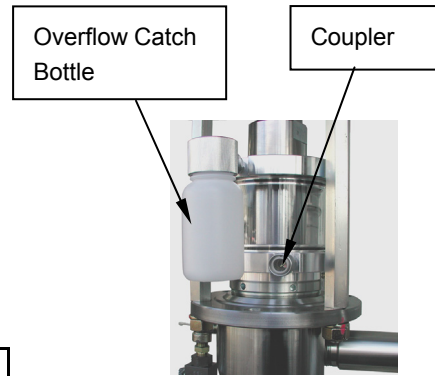

Fig.6.1
- 1) Use the coupler to remove the “overflowed oil collection container”. (Fig.6.1)